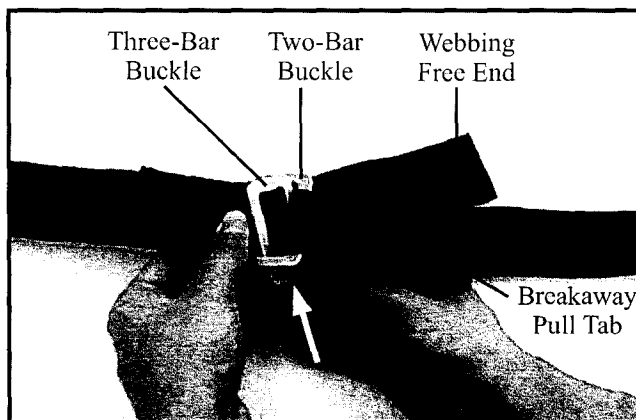

Figure 12- Closing the Buckle
1. Pass the three-bar buckle and webbing upward through the opening in the two-bar buckle (Figure 12). Make sure to pull free end of the webbing completely through the opening.